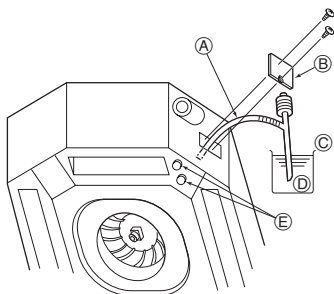

Fig. 7-5
- (A) Insert the pump end 3 to 5 cm, 1-3/16 to 2 inch
- (B) Cover of water supply inlet
- (C) About 1000 cc, 1/4 gal
- (D) Water
- (E) Drain plug
7.4. Check of drainage (Fig. 7-5)